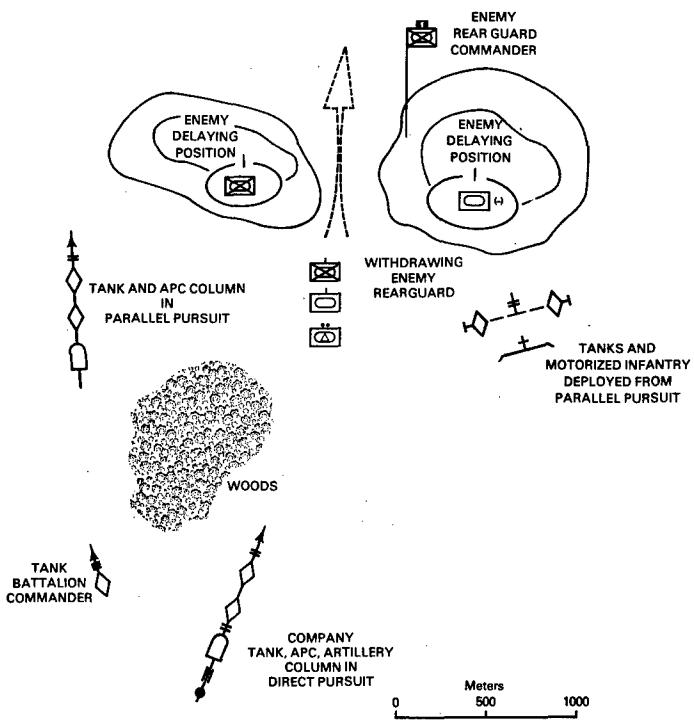

Figure 15. Direct and Parallel Pursuit.
c. A combined pursuit is the application of both direct and parallel pursuit against a withdrawing enemy (see Figure 15).